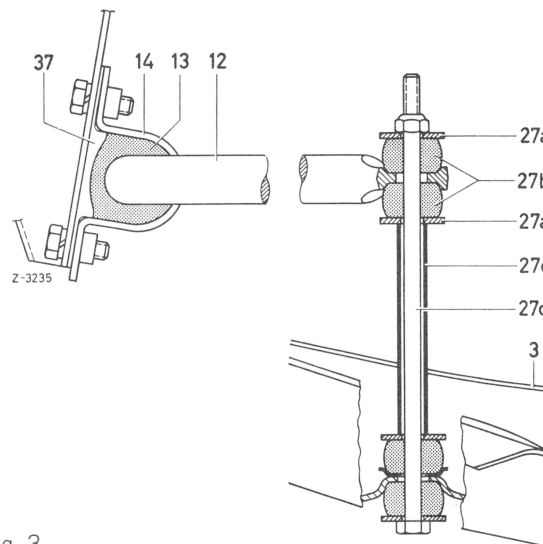

Fig. 3
**3** Check rubber mounting of torsion bar bearing and rubber rings of connecting linkage (Fig. 3).
**5** Attach torsion bar connecting linkage left and right to lower control arm (Fig. 3). Tighten hex. nut up to end of threads.